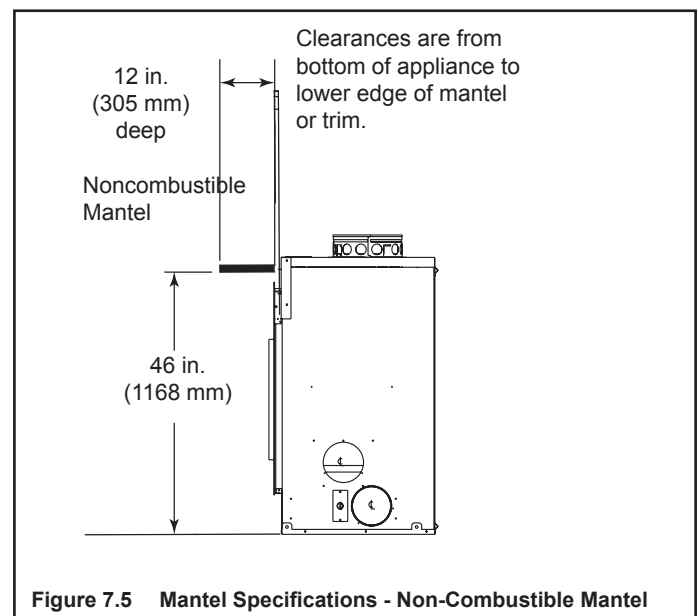

Figure 7.5 Mantel Specifications - Non-Combustible Mantel
A noncombustible mantel may be positioned no lower than 46 in. (1168 mm) from the base of the fireplace. See Figure 7.5.
- Refer to Figure 7.5 for minimum dimensions.
Non-combustible flooring a minimum of 20 in. (508 mm) in front of and 8 in. (203 mm) to either side of the fuel opening is required (see Figure 7.5).